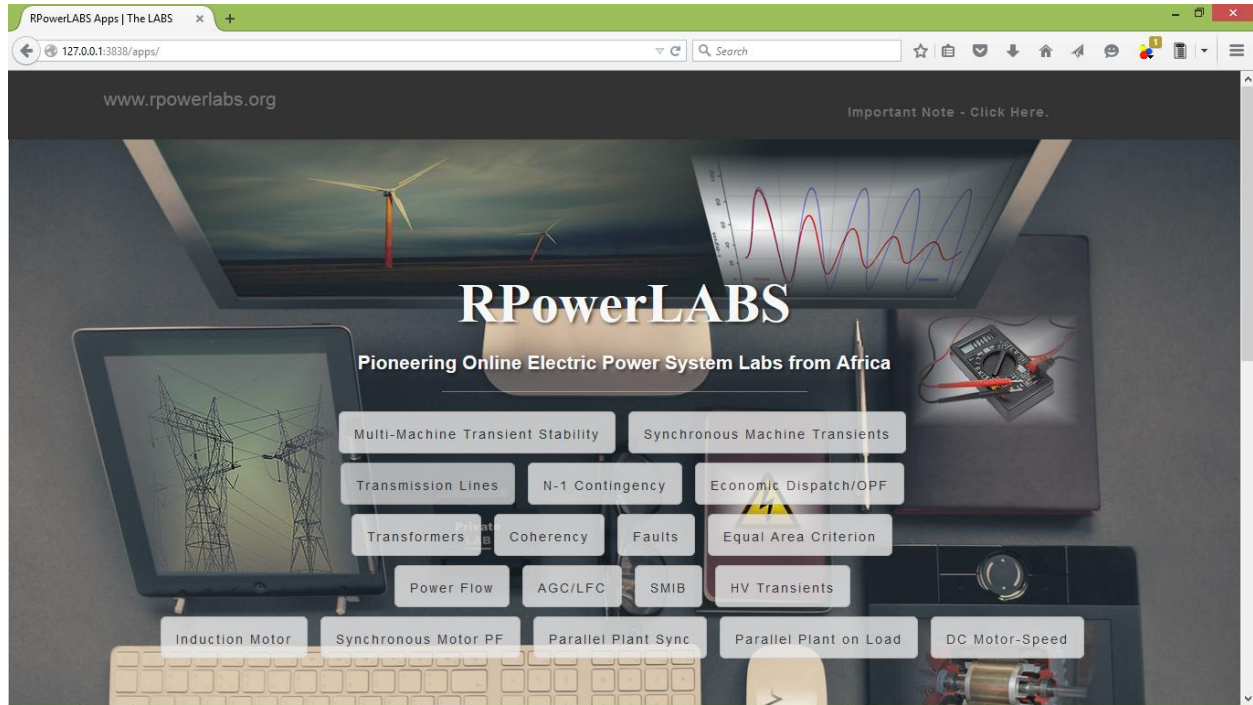
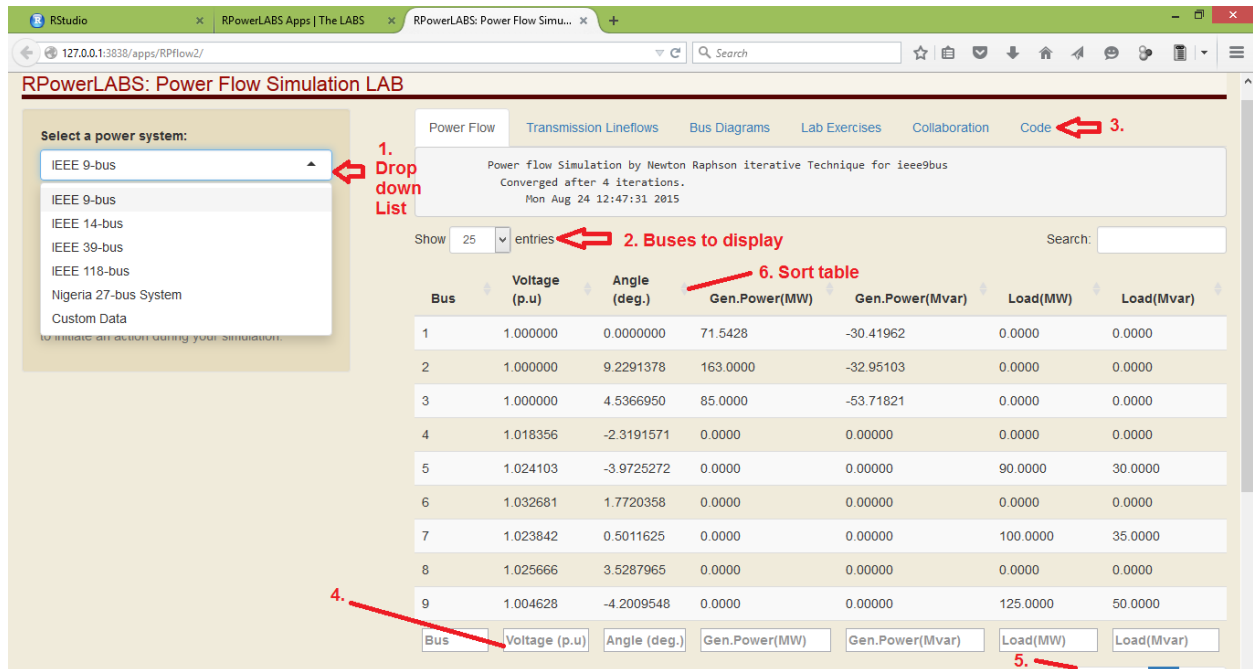

Fig. 1: Home screen of RPowerLABS
Fig. 2: Screenshot showing Power Flow simulation LAB
Step 1: On the Home Screen of RPowerLABS, click on "Power Flow", a new tab on the browser is opened to display the power flow lab's interface as seen in Fig. 2. A screenshot showing the Home screen of RPowerLABS is shown in Fig. 1.
To see a selected number of buses at a time, click on **Buses to display (2.)**; to see other buses click on **Previous** or **Next** at the bottom right corner of the table (5.). To sort each column click on (6.). To search for a particular voltage, type the voltage value into search bar labeled 4. As shown in Figure 2.
In this case study we shall consider the IEEE 39-bus New England power system. This power system is made up of *10 generators, 46 transmission lines, 39 buses* and *11 active tap-changing transformers*. You can find the single-line diagram of this power system in Page 2 of the **Bus Diagrams** section of the lab (see Fig. 2).